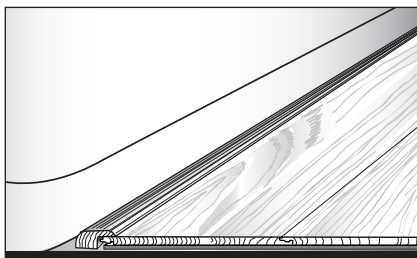

Fig. 26
7. Moulding may be used along a straight tub or shower base (Fig. 26). The expansion zone should be filled with 100% silicone caulk and the moulding seated in the caulk while it is still wet. The joint between the moulding and the tub or shower base should also be caulked. If moulding is not an option, a normal 1/4" (6.35 mm) expansion zone may be used at the tub and then completely filled with 100% silicone caulk.